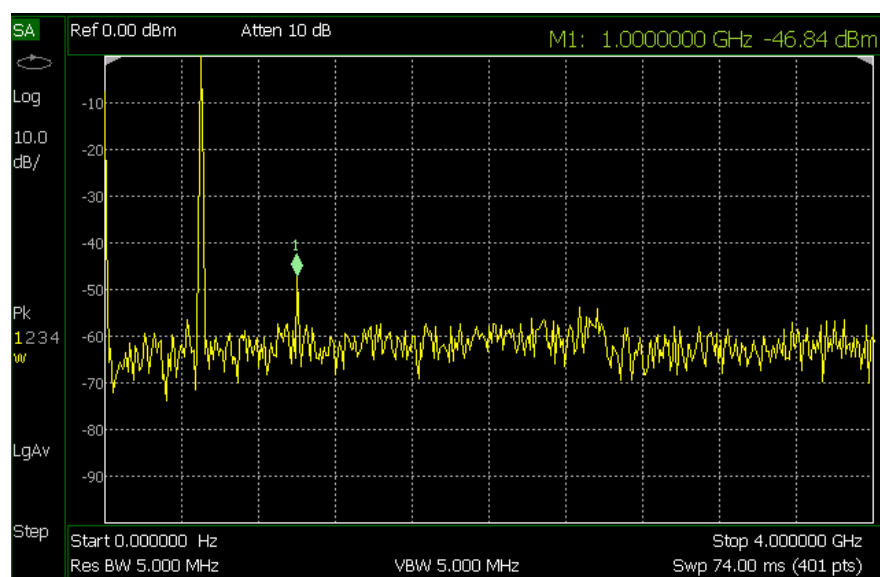

Figure 4. Screenshot of the first and secondary peak with marker
6. Record the specific values of this main peak. Now use the dial on the FieldFox to move the marker to the top of the secondary peak (Figure 4). The coordinates for this are 1.000 GHz and -45 dBm. Similarly, record the values of this secondary peak. The high frequency accuracy of the SA shows that the frequency of the secondary peak is exactly twice that of the primary peak; it is the second harmonic of the first peak. Instead of creating a perfect sine wave, the signal generator is producing one with a minimum amount of second harmonic distortion.